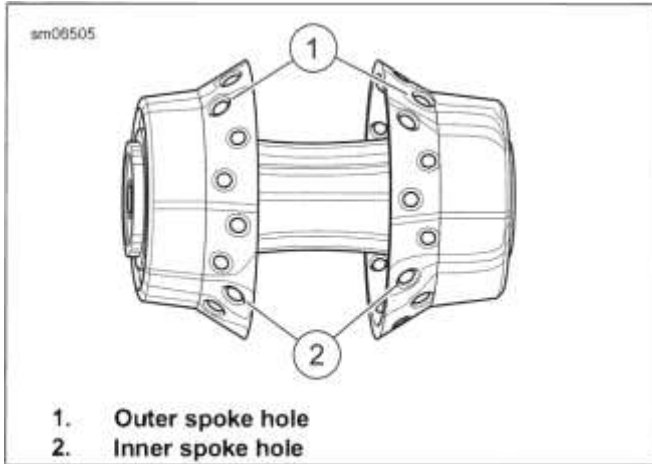

Figure 3-9. Angle Flange Hub
- See Figure 3-9. The following procedure is valid for wheels that use an angle flange hub regardless of rim style or diameter.